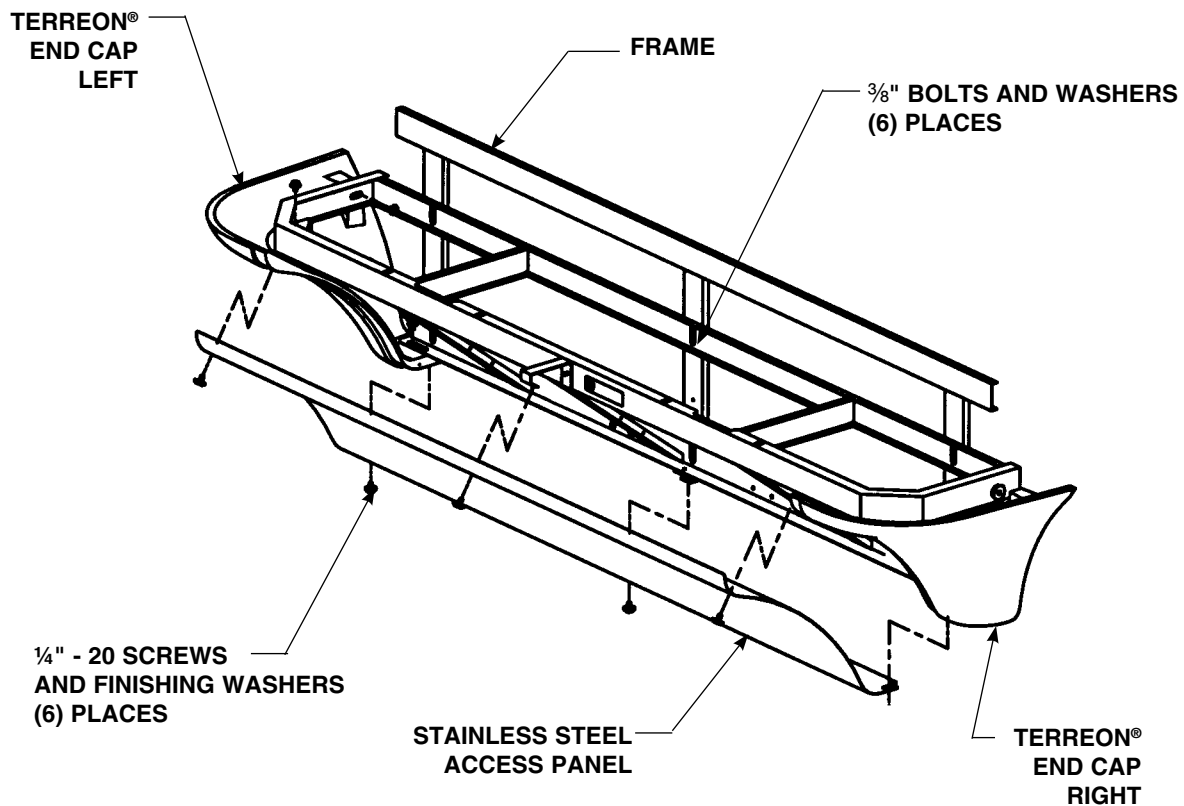

Figure 3
2. Remove the top three access panel screws and washers securing the access panel to the frame and remove the access panel (see Figure 3).
4. Reinstall panel to frame with the five Torx-head screws provided (see Figure 3 on page 8).
Using a 5/32" Allen socket wrench, loosen, but do not remove the bottom three access panel screws. Remove the top three access panel screws and washers securing the panel to the frame and remove the access panel (see Figure 3 on page 8). Solenoids are located on left side of frame (see Figure 9).